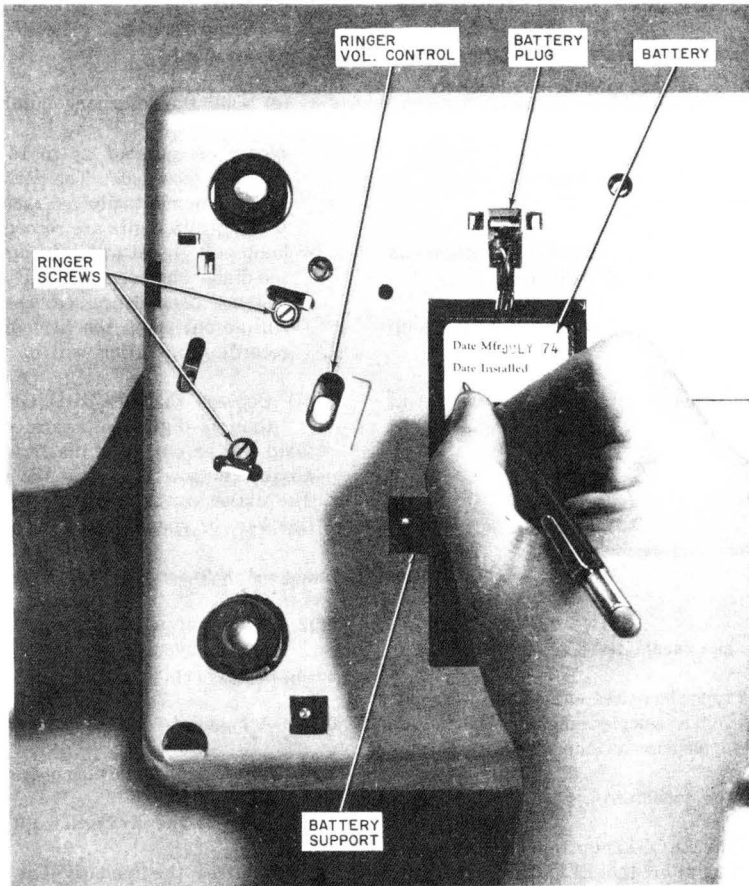

Fig. 6—872A1M Telephone Set, Bottom View
(c) Under the telephone set (Fig. 6):
6.03 The KS-20390L4 or L2 battery has an expected life of about 4 years. It can be replaced without loss of memory provided commercial ac power to the set is continuously maintained. To replace the battery, proceed as follows (Fig. 6).